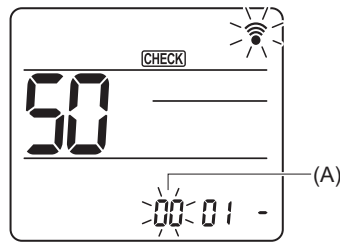

Fig. 6-20
Press the **[DOWN]** button to set unit number (A). (Fig. 6-20)